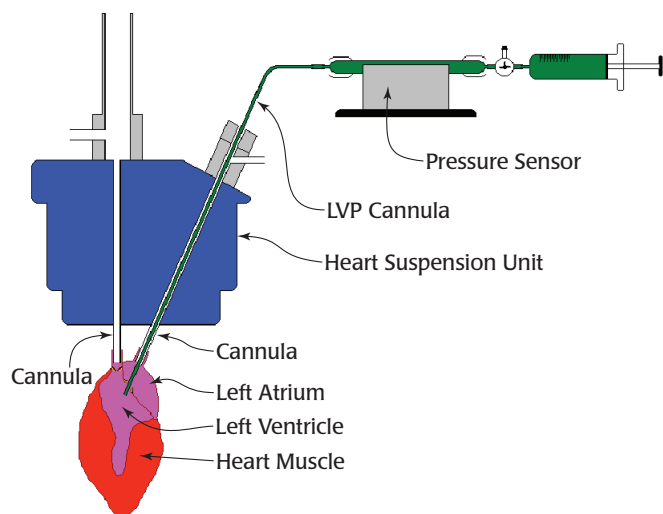

Fig. 38—This diagram shows how the heart is mounted.
- E. Push the PVC cannula through the opening in the diaphragm and down the stainless steel atrial cannula until the tip of the PVC cannula reaches the end of the metal cannula (Fig. 38).